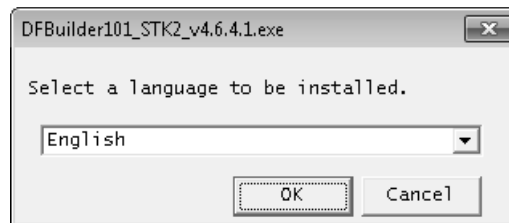

Figure 2.1.2 Selecting the language
2. When an installer program of DebugFactory Builder is executed, a dialog of Figure 2.1.2 appears. Select the language that you use the DebugFactory Builder for MN101\_STK2.